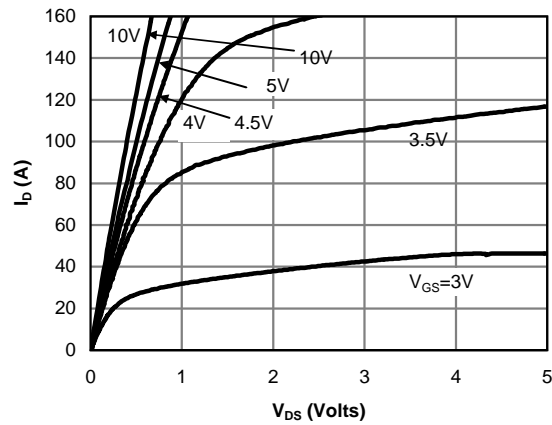

Fig 1: On-Region Characteristics (Note E)
E. The static characteristics in Figures 1 to 6 are obtained using $<30\mu\text{s}$ pulses, duty cycle 0.5% max.